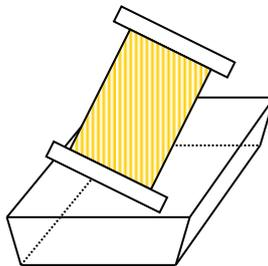

Figure 3-2 Diagram of a Membrane Element Immersed in a Washing Tank
1. **It is possible to extract elements from the module and immerse them in a washing tank in order to save chemicals Figure 3-2. In this case, wash the elements with water after extracting them from the module and then immerse them in the washing tank.**